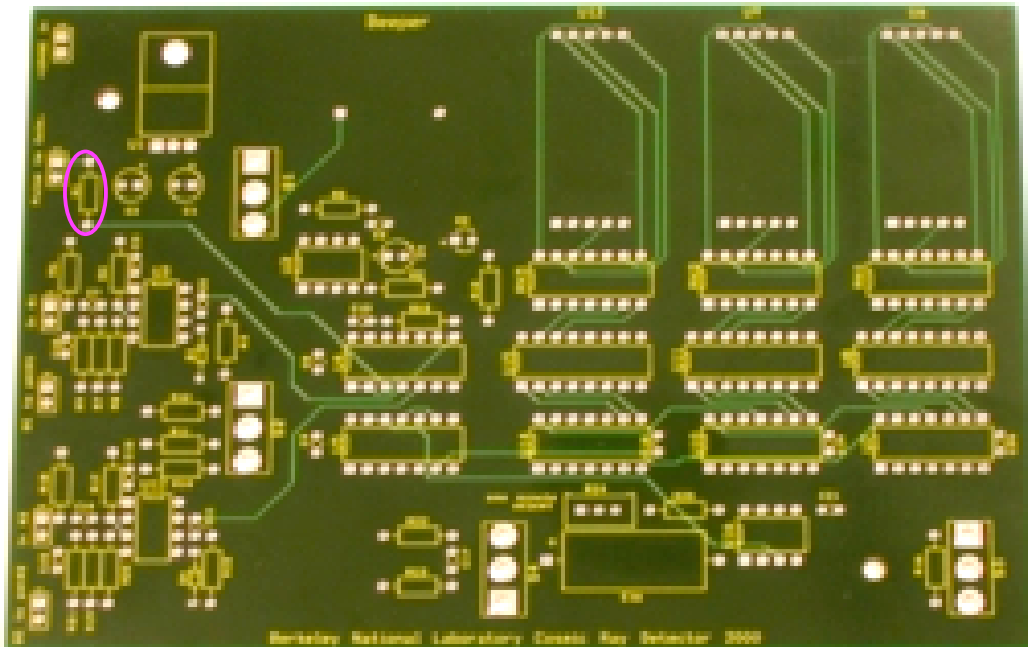

Figure 19: Circuit board with R1 highlighted.
- 1. Locate R1 on the circuit board and insert the 51 Ω resistor (Item 1) into it (Figure 19).** The resistor should sit on the label side of the board. Be sure to bend the wires slightly on the other side such that the resistor will hold in place. See Appendix B for color codes on resistors.